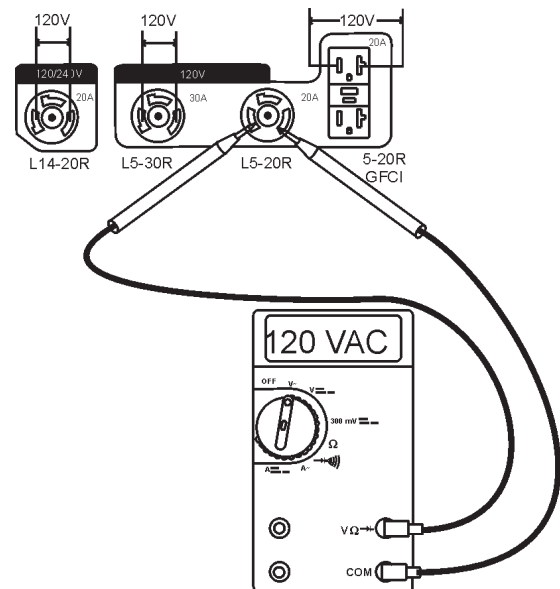

Figure 17. 120 VAC Receptacles
- If desired, verify with a voltmeter (Figure 17) that 120 VAC is present at the GFCI receptacle and all three twist-lock receptacles as shown below.